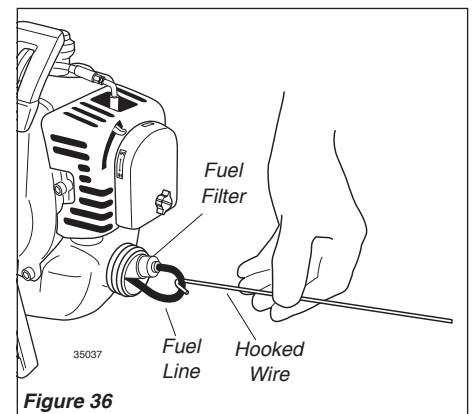

Figure 36
- Use a hooked wire to extract the fuel filter from inside the fuel tank. Remove and replace the filter element. Before reinstalling the filter, inspect the condition of the fuel line. If damage or deterioration are noted, the unit should be removed from service until it can be inspected by a Shindaiwa-trained service technician. See Figure 36.